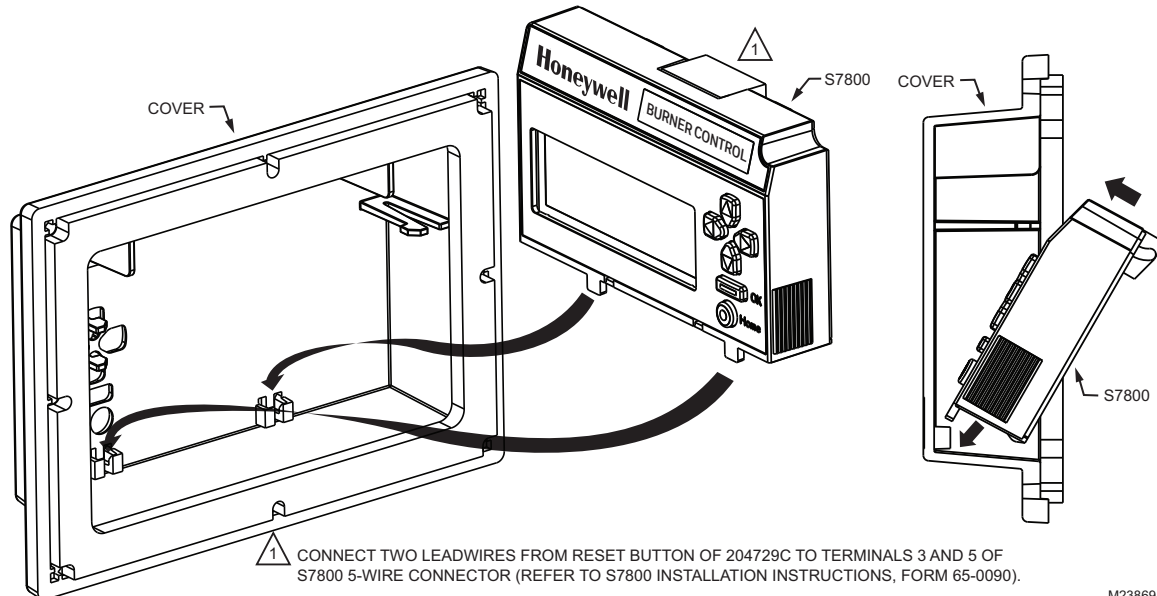

Fig. 1. Installing S7800 Keyboard Display Module in 204729 Cover Assembly.
2. Place the tabs on the bottom of the S7800 Keyboard Display Module into the slots below the scroll panel on the cover. See Fig. 1.